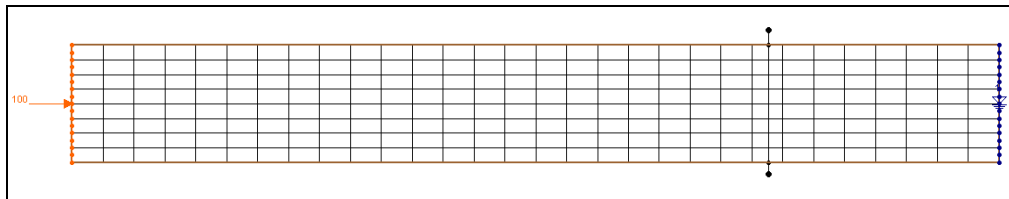

Figure 12 Channel #3 showing placement of observation arc.
26. Create an observation arc across the flume from top to bottom at about 200 m from the downstream boundary as shown in Figure 12.